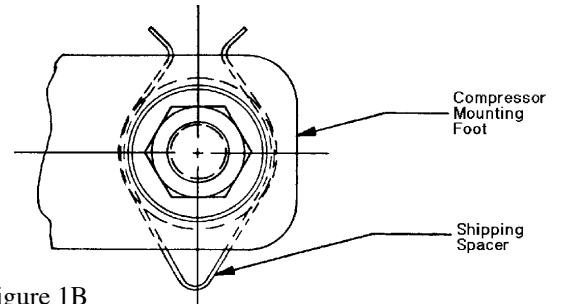

Figure 1B
3. Allow 1/16 inch space between the mounting nut/washer and rubber spacer. Mounting spring must not be fully compressed when mounting nut is properly installed. See Figures 1B, 1C, and 1D.